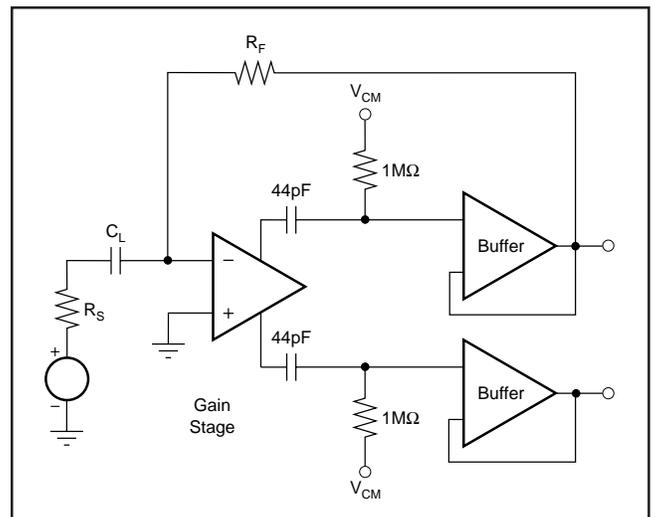

FIGURE 8. Low Frequency LNP Time Constants.
When employing active feedback, the user should be careful to avoid low-frequency instability or overload problems. Figure 8 illustrates the various low-frequency time constants. Referring again to the input resistance calculation of Equation (3), and considering that the gain term “A” falls off below 3.6kHz, it is evident that the effective LNP input impedance will rise below 3.6kHz, with a DC limit of approximately R_F . To avoid interaction with the feedback pole/zero at low frequencies, and to avoid the higher signal levels resulting from the rising impedance characteristic, it is recommended that the external $R_F C_C$ time constant be set to about 5μs.